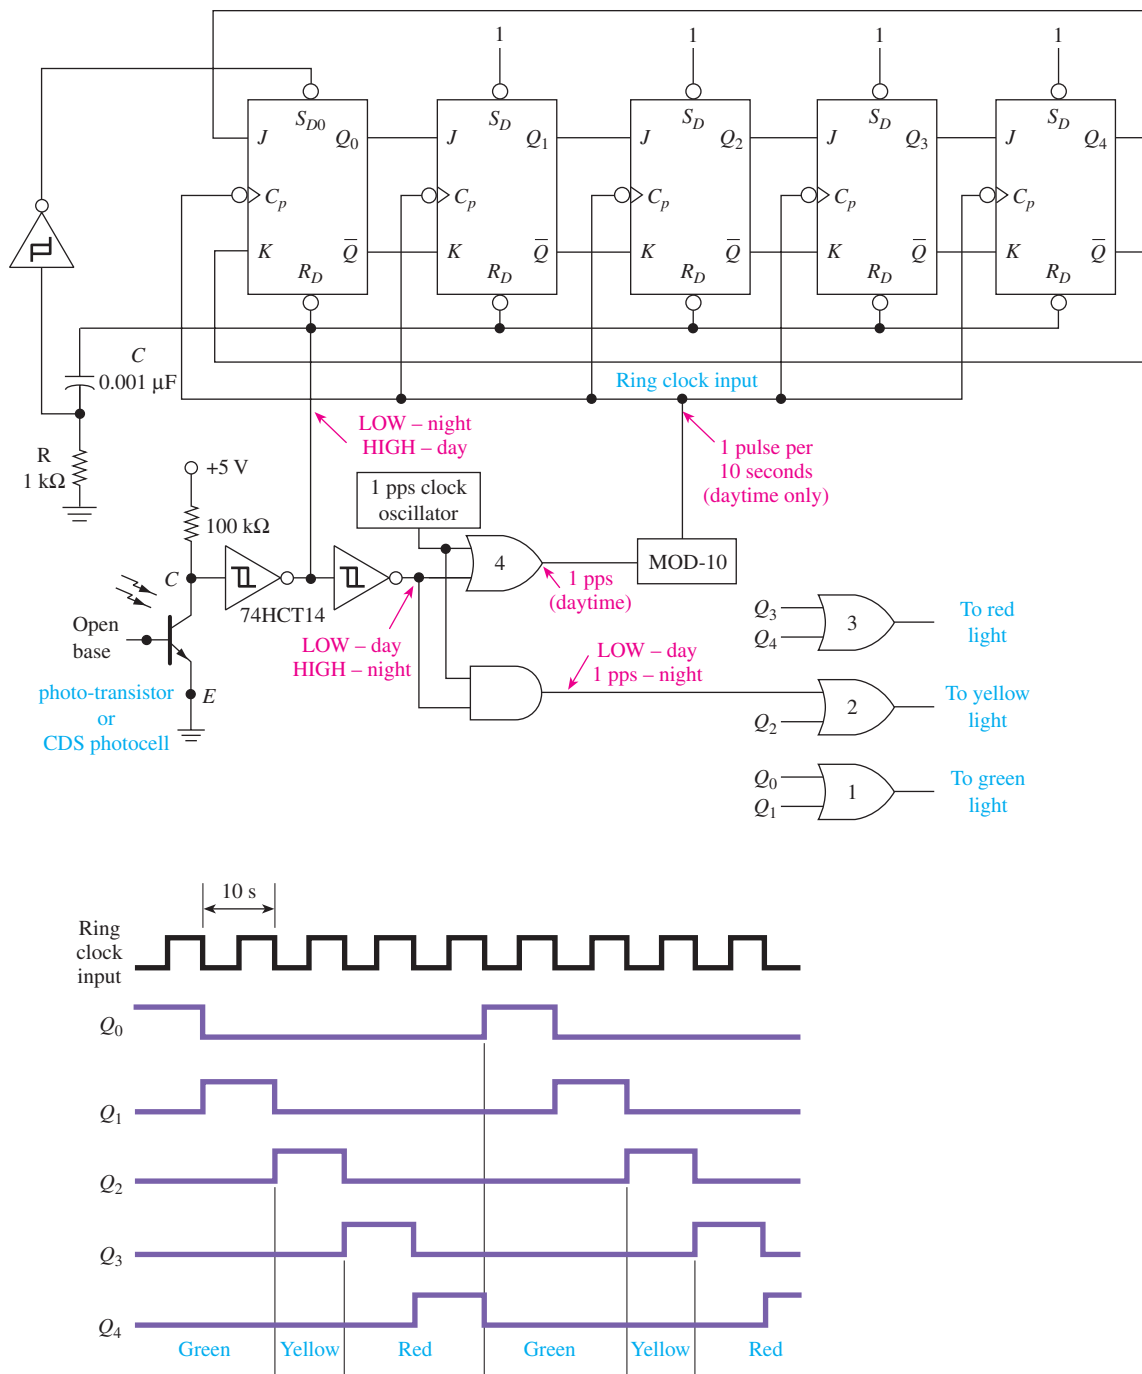

Figure 20 A 5-bit ring shift counter used as a traffic light controller.
Solution: By studying the waveforms from Figure 6, you will notice that if we add one more flip-flop to that 4-bit ring shift counter and use a clock input of 1 pulse per 10 s, we could tap off the Q outputs using OR gates to get a 20–10–20 sequence. Also, we could use a phototransistor to determine night from day. During the night we want to stop the ring shift counter and flash the yellow light. Figure 20 shows a 5-bit ring counter that could be used as this traffic light controller. First, let's make sure that the green–yellow–red sequence will work properly during the daytime. During the daytime, outdoor light shines on the phototransistor, making its collector-to-emitter resistance LOW, placing a low voltage at the input to the first Schmitt inverter, and causing a LOW input to OR gate 4. The 1-pps clock oscillator will pass through OR gate 4 into the MOD-10, which divides the frequency down to one pulse per 10 s. The output from the MOD-10 is used to drive the clock input to the 5-bit ring shift counter, which will circulate a single HIGH level down through each successive flip-flop for 10 s at each Q output, as shown in the timing waveforms.
14. The traffic light controller of Figure 20 flashes the yellow light at night because the level at the collector of the phototransistor is _____ (LOW, HIGH), which _____ (enables, disables) the AND gate.
15. What circuitry is responsible for parallel loading a 1 into the first flip-flop of Figure 20 at the beginning of each day?